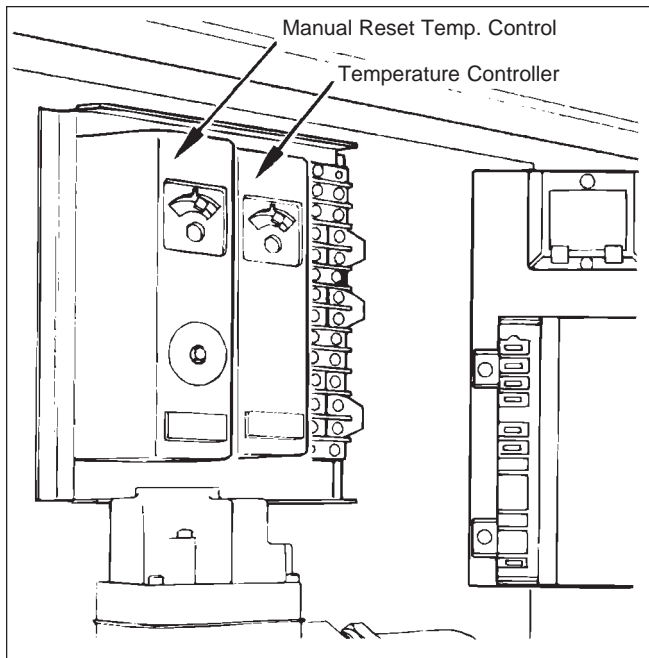

Figure 27. Temperature controls.
3. Set the temperature control (see Figure 27) to its lowest setting.
Water temperature can be adjusted at the temperature control (see Figure 27). The temperature control is adjusted to its lowest setting when it is shipped from the factory. The 130°F (54°C) setting is the recommended starting point for setting the temperature control.
Heaters on constant flow have the temperature control sensor bulb in the heater inlet and the manual reset hi-limit sensing bulb located in the heater outlet. Set the temperature control dial (see Figure 27) at the designed system temperature. Set the hi-limit switch 40 to 50°F (4 to 10°C) above the supply temperature to the system.